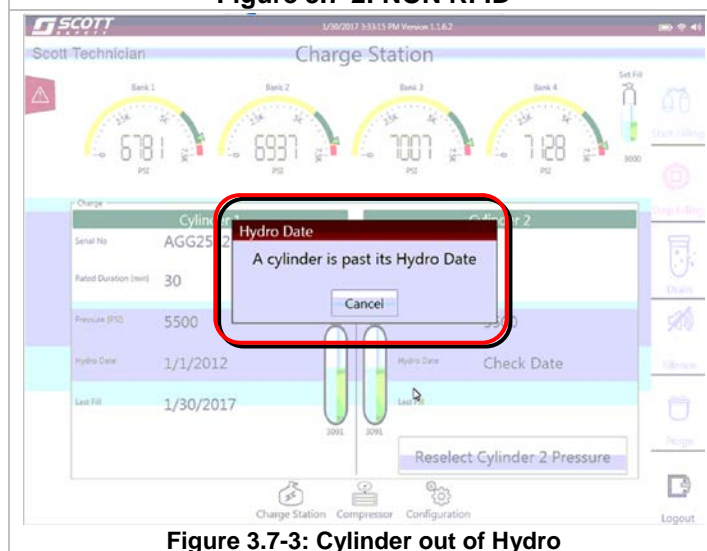

Figure 3.7-3: Cylinder out of Hydro
3. If the Smart Touch Controller identifies a cylinder as being out of Hydro the controller will prevent any filling operations until the cylinder is removed from the charge station. See Figure 3.7-3.